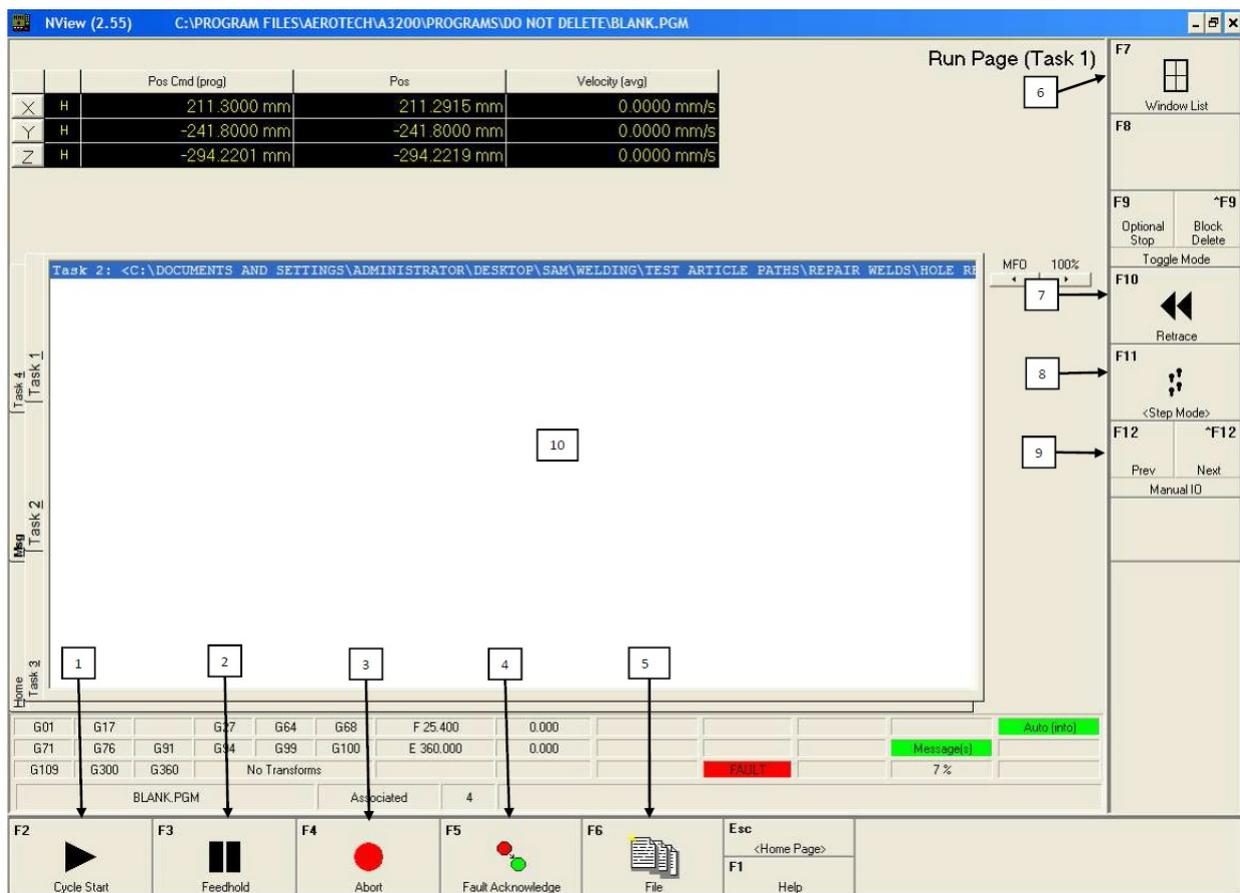

Figure 48: NView Run Page.
- Run Page (Figure 48) Used to control and execute a program.